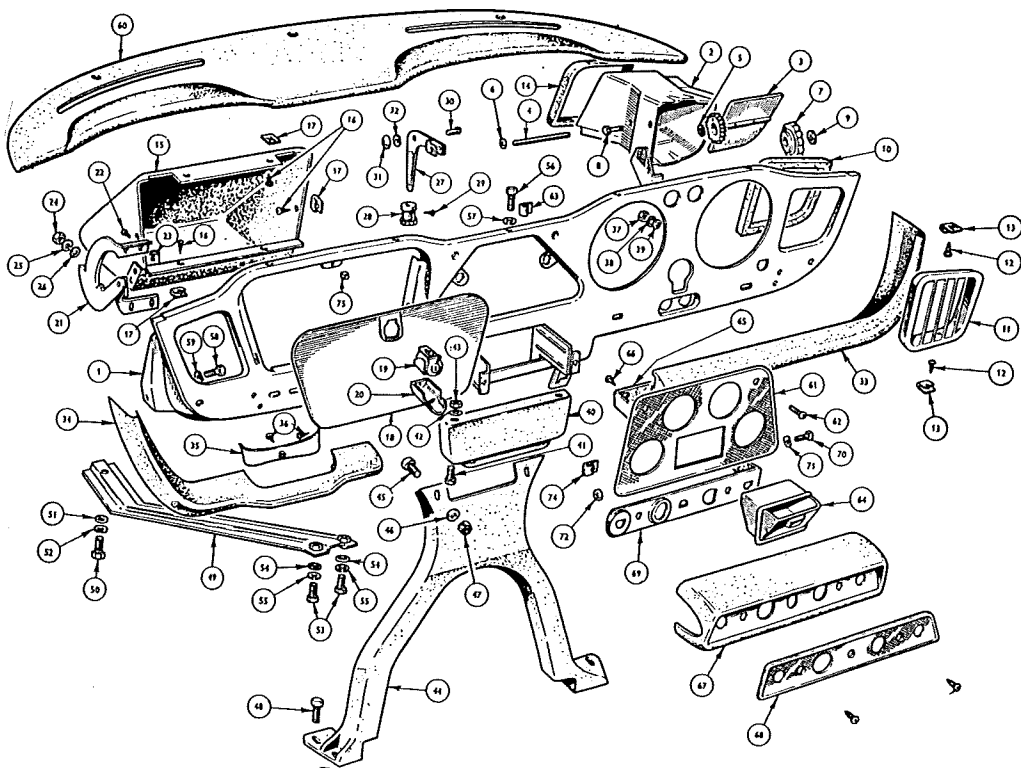
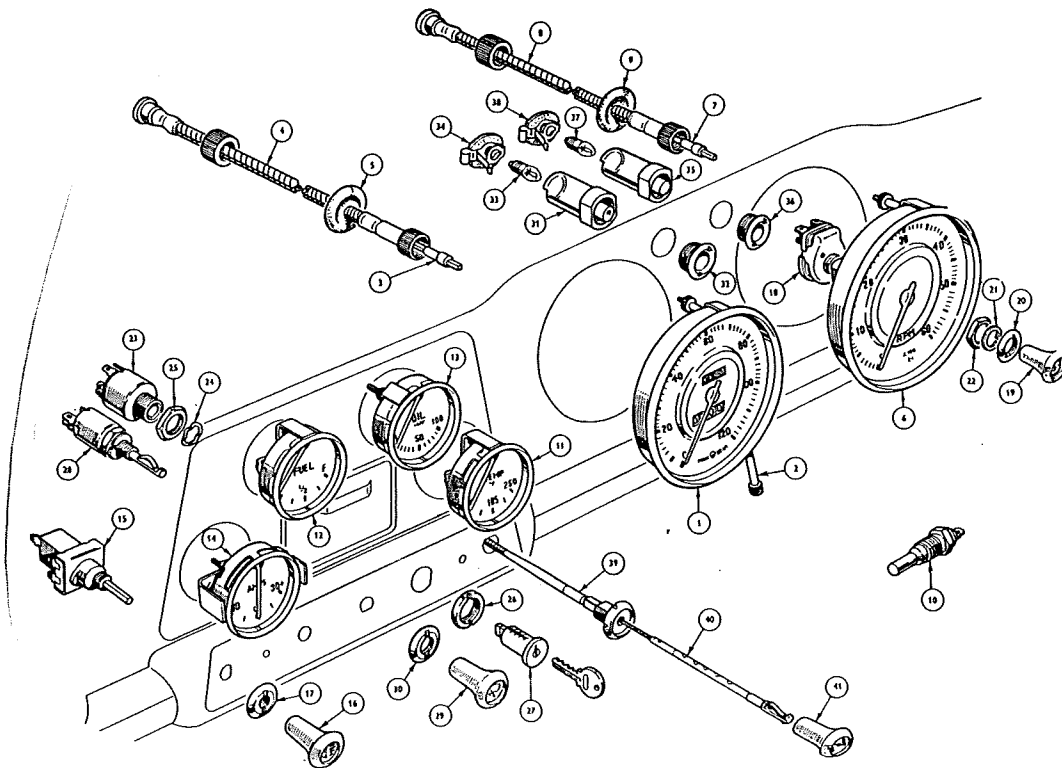
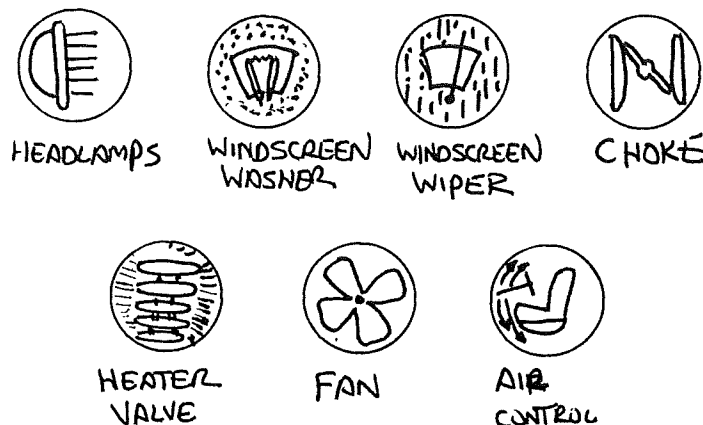

Figure IN-12: Exploded View Of The Dash And Supports
Figure IN-13: Instrument Locations
Figure IN-14: Knob Pictures and Functions
The TR4 and TR4A dashes during the production run were shown in Figures IN-2 through IN-4. What follows is a description of the items that made up the dash. Unless otherwise noted the items applied for both the TR4 and TR4A. An exploded view of the TR4 dash is in Figure IN-12.
The TR4/4A instruments are shown in Figures IN-2 through IN-4 also. Figure IN-13 is the instrument illustration from the parts catalogue. Note that some of the items in this section are shown in Figure IN-12.
Gauge Location - One of the most common originality deductions involves gauge location. Figure IN-13 shows the gauge location for RHD cars. This is mirrored for LHD cars.
Center Dash Mounted Instrument Panel Switches and Controls - The instrument panel light switch, windscreen wiper switch, side/head lamp switch, starter/ignition switch, windscreen washer pump, and choke control were located in the center panel. These switches are shown in Figure IN-13, and are in the correct position (this did not swap between RHD and LHD cars). Switch knobs were black with their function indicated pictorially on the front behind a clear plastic cover. These functions are shown in Figure IN-14.
- Mounting Plinth (#67, Figure IN-12) for the early TR4 was a cardboard unit covered with leather grain vinyl. The insert (#68) was stamped aluminum left natural. Later Plinths were injection molded black plastic.